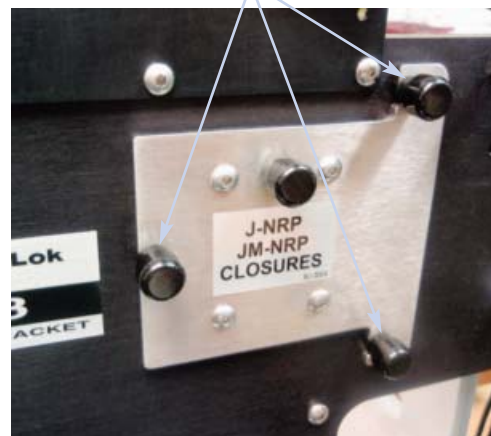

Figure 3.4
D. LOADING CLOSURE - LABELS: Figures 3.4 - 3.7
2. Remove the anvil by loosening the three knobs located at the edges of the anvil (Figure .3.4, 3.5). Slide the anvil to the side and lift up and out.